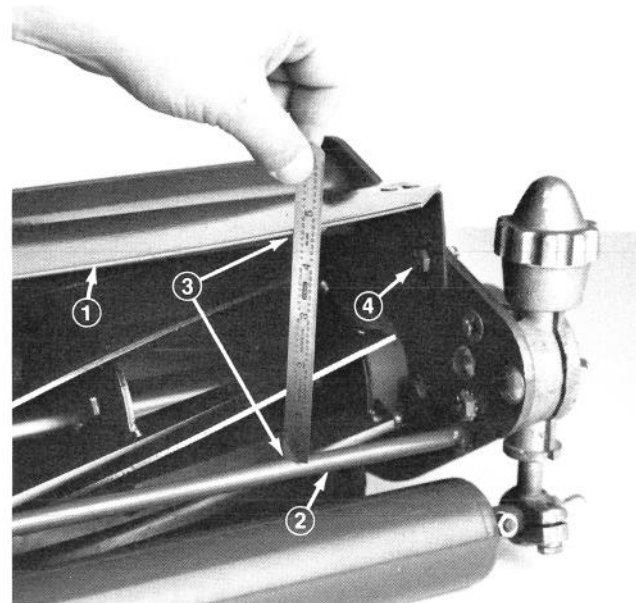

Figure 4
- Set cutting unit in normal cutting position and measure distance from top of front crossbar to shield at each end of cutting unit (Fig. 4).
- Height of shield from crossbar for normal cutting conditions should be 4-3/4 inches (12.1 cm). Loosen cap-screws and nuts securing shield to each side-plate, adjust shield to correct height and tighten fasteners (Fig. 4).